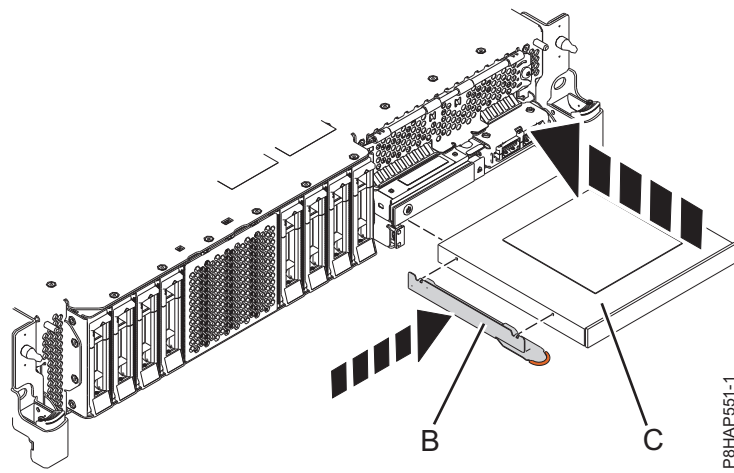
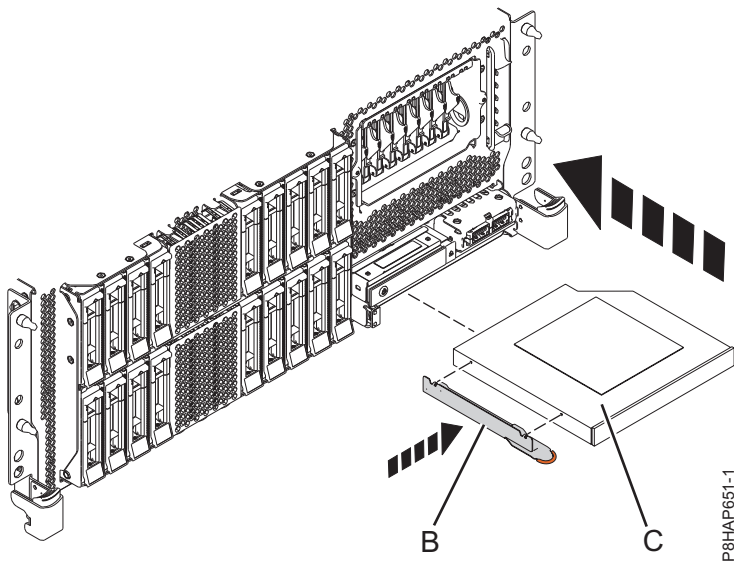
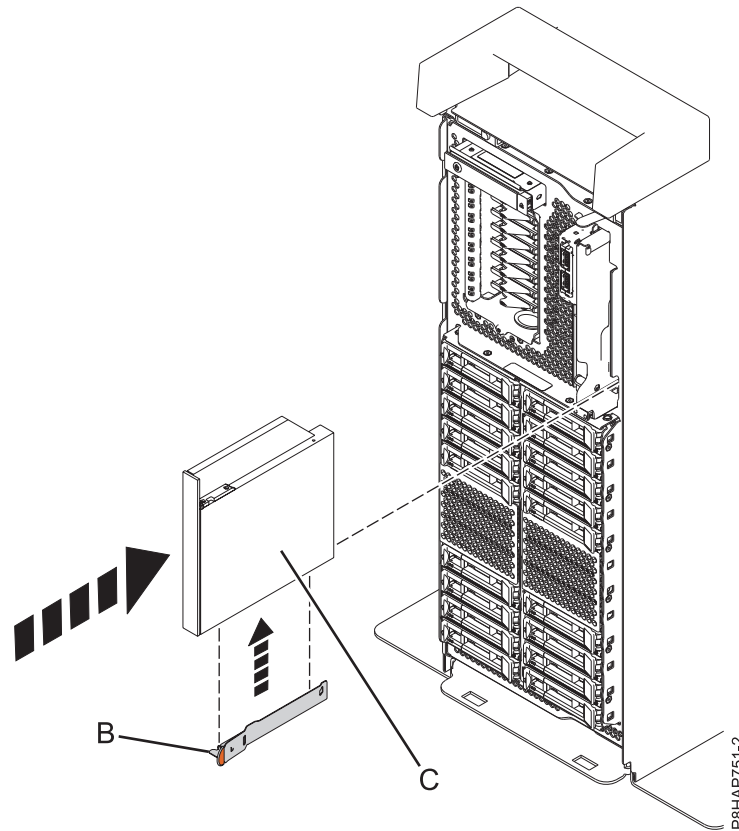

Figure 16. Installing a Slimline media device in an 5148-21L, 5148-22L, 8247-21L, 8247-22L, 8284-21A, or 8284-22A system
Figure 17. Installing a Slimline media device in a rack-mounted 8247-42L, 8286-41A, or 8286-42A system
Figure 18. Installing a Slimline media device in a stand-alone system
5. Attach the retaining-bracket (B) to the new Slimline media device, as shown in Figure 16 on page 20 for an 5148-21L, 5148-22L, 8247-21L, 8247-22L, 8284-21A, or 8284-22A system, Figure 17 on page 20 for an 8247-42L, 8286-41A, or 8286-42A system, or Figure 18 on page 21 for a stand-alone 8286-41A system.
6. Align the Slimline media device (C) with the media bay, and support the bottom of the device as you slide it halfway into the system.
For an 8284-21A or 8284-22A system, see Figure 16 on page 20, for a rack-mounted 8247-42L, 8286-41A, or 8286-42A system, see Figure 17 on page 20, or for a stand-alone 8286-41A system, see Figure 18 on page 21.